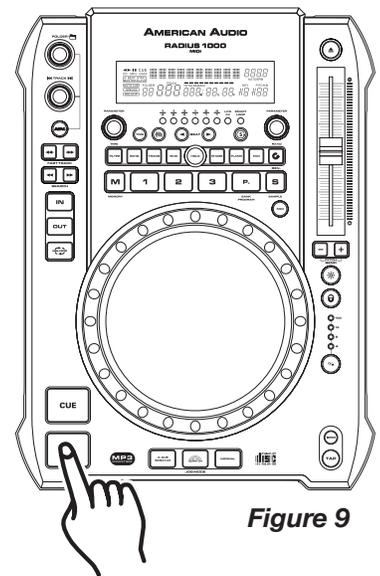
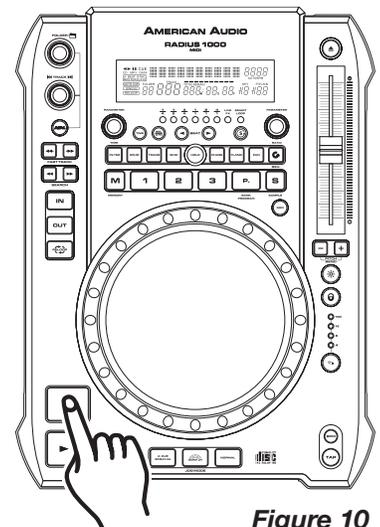
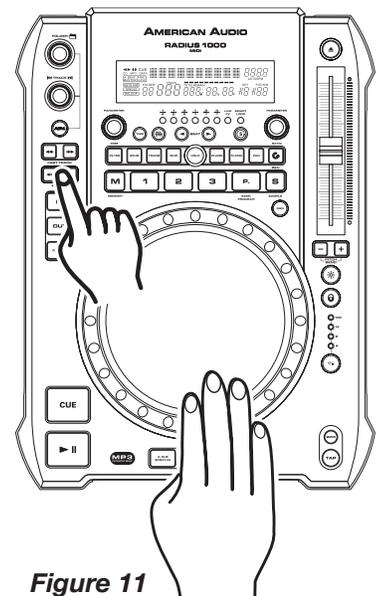

Figure 9
Figure 10
Figure 11
### 3. STARTING PLAYBACK - *Figure 9*
### 4. PAUSING - *Figure 9*
### 5. STOPPING PLAYBACK - *Figures 9 & 10*
### 6. AUTO CUE - *Figure 10*
### 7. FRAME SEARCH - *Figure 11*
This feature allows you to scroll through a track frame by frame, allowing you to find and set a starting cue, sample, or loop point. To use the scroll function you must first be in Pause Mode or Cue Mode. Once you are in Pause or Cue mode, turn the *JOG WHEEL (9)* to scroll through the track (*Figure 11*). Turning the wheel in a clockwise direction will advance the frame search and turning the wheel in a counter-clockwise direction rewinds the frame search. When you use the *JOG WHEEL (9)* the monitor (headphone level) function allows you to here what you are scrolling through. Once you reach your desired starting point you can set a cue (starting) point by pressing the *PLAY/PAUSE BUTTON (13)* as in *Figure 9*. Pressing the *CUE BUTTON (14)* as in *Figure 10* will now return you to the point you just set.